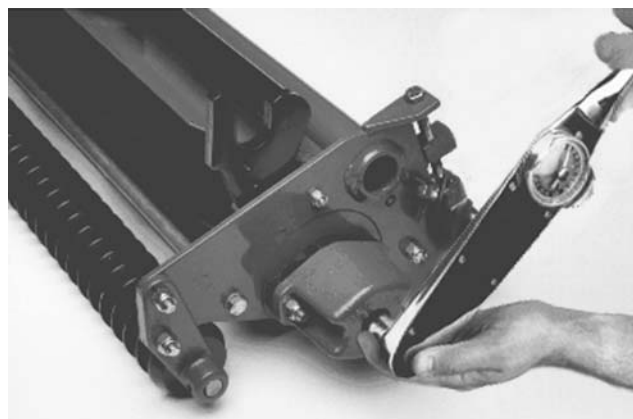

Figure 5
2. The rolling torque required to turn the reel should be 4 to 7 in-lb (0.45 to 0.79 N-m). This should be measured with a torque wrench (Fig. 5).